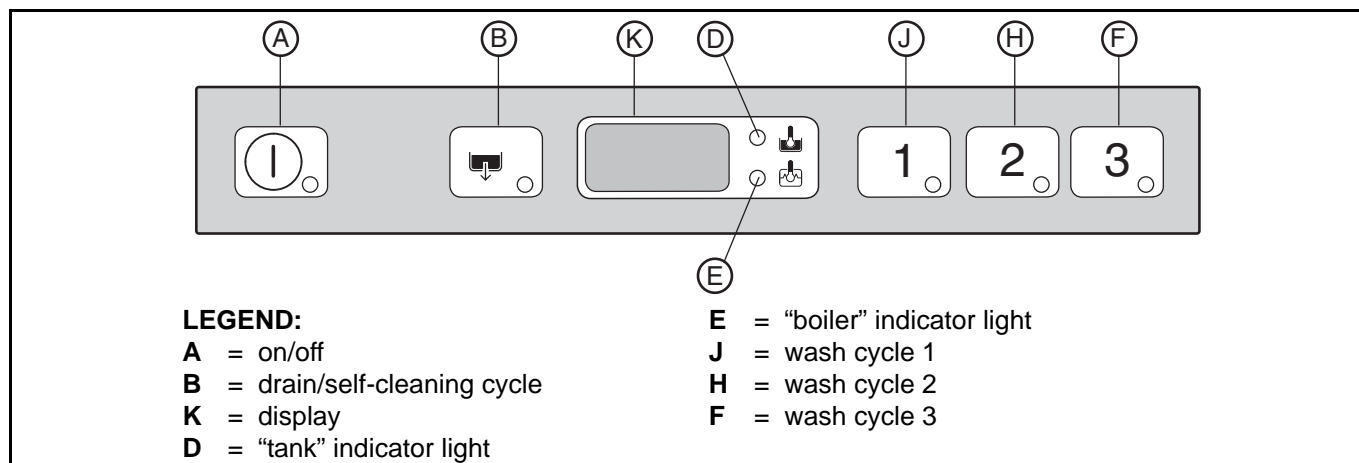

Figure 17
The indicator light of button "A" (Figure 17) comes on, indicating that the dishwasher is powered and that water is being introduced and heated. The word "FILL" is shown on the display during the entire filling and heating stage:
To display the boiler temperature during heating of the tank, open the door and press the button "J" (Figure 17).
For lightly soiled dishes: press button "J" (Figure 17) (see table of times).
For normally dirty dishes: press button "H" (Figure 17) (see table of times).
For very dirty dishes: press button "F" (Figure 17) (see table of times).
- Select the drain cycle by pressing button “B” (Figure 17).
- Switch off the dishwasher by pressing button “A” (Figure 17).